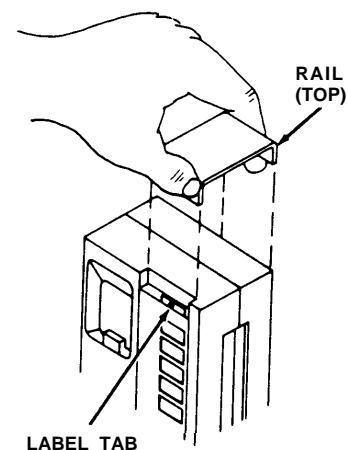

Figure 4
- Press this ridge with your finger while cupping the rail in the palm of your hand; pull up to remove the rail (see Figure 4).